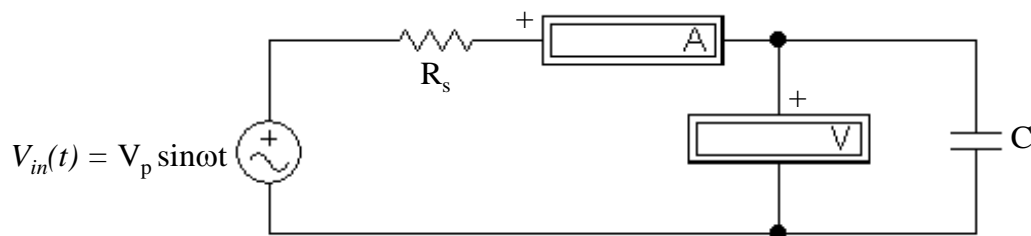

Figure 5.2 Capacitor characterization setup.
- A.** Consider the circuit of Fig. 5.2. Find the capacitance of the capacitor in terms of the measured current (Ammeter A) and voltage (Voltmeter V) values (rms values) and the angular frequency ω . *Hint:* What is the phase relationship between capacitor voltage and current (Chapter 9 Figure 9.13 of Nilsson and Riedel)?
Replace C in Fig. 5.2 by an inductor L . Find L in terms of the measured current and voltage values, the angular frequency ω and the resistance r . *Hint:* What is the phase relationship between inductor voltage and current (Chapter 9 Figure 9.11 of Nilsson and Riedel)?